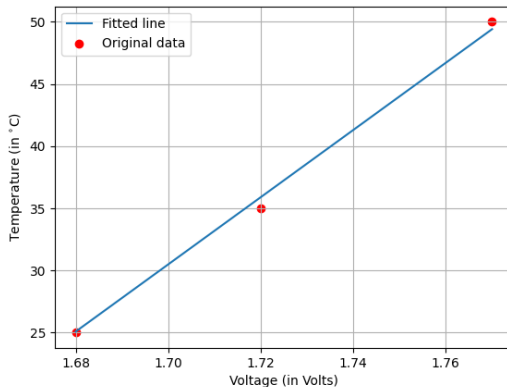

Figure 4: Model Evaluation
- The test data, linear model curve are shown in the figure 4.